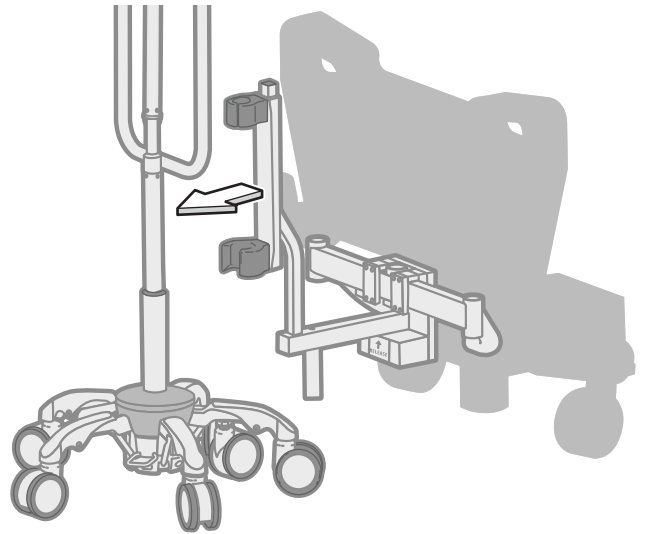

Figure 11. Undock the IV Stand
3. With the legs locked in the extended position, undock the IV stand from the bed mount. (Figure 11).